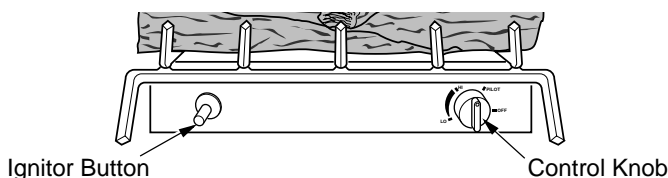

Figure 35 - Control Knob and Ignitor Button Location
4. Wait five (5) minutes to clear out any gas. Then smell for gas, including near the floor. If you smell gas, STOP! Follow "B" in the safety information, column 2 on page 17. If you don't smell gas, go to the next step.
5. Slightly depress and turn control knob counterclockwise  to the PILOT position. Press in control knob for five (5) seconds (see Figure 35).